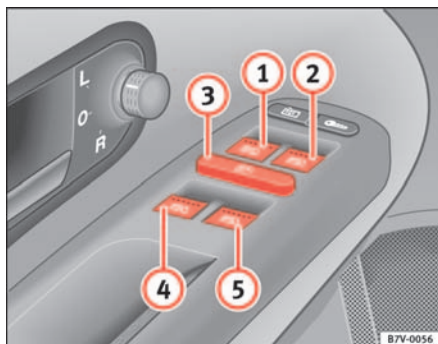

Fig. 64 Detail of the driver door: front and rear electric window controls
- Press button ⇒ fig. 64 ①, ②, ④ or ⑤ to open the corresponding window.
Safety switch ⇒ fig. 64 ③ in the driver door can be used to disable the electric window buttons in the rear doors.
The one-touch closing and opening of the electric windows can only be controlled with the switches on the driver's door. The buttons ⇒ page 100, fig. 64 ① and ② have two levels for opening the front windows and two for closing. This makes it easier to open or close windows to the desired position.